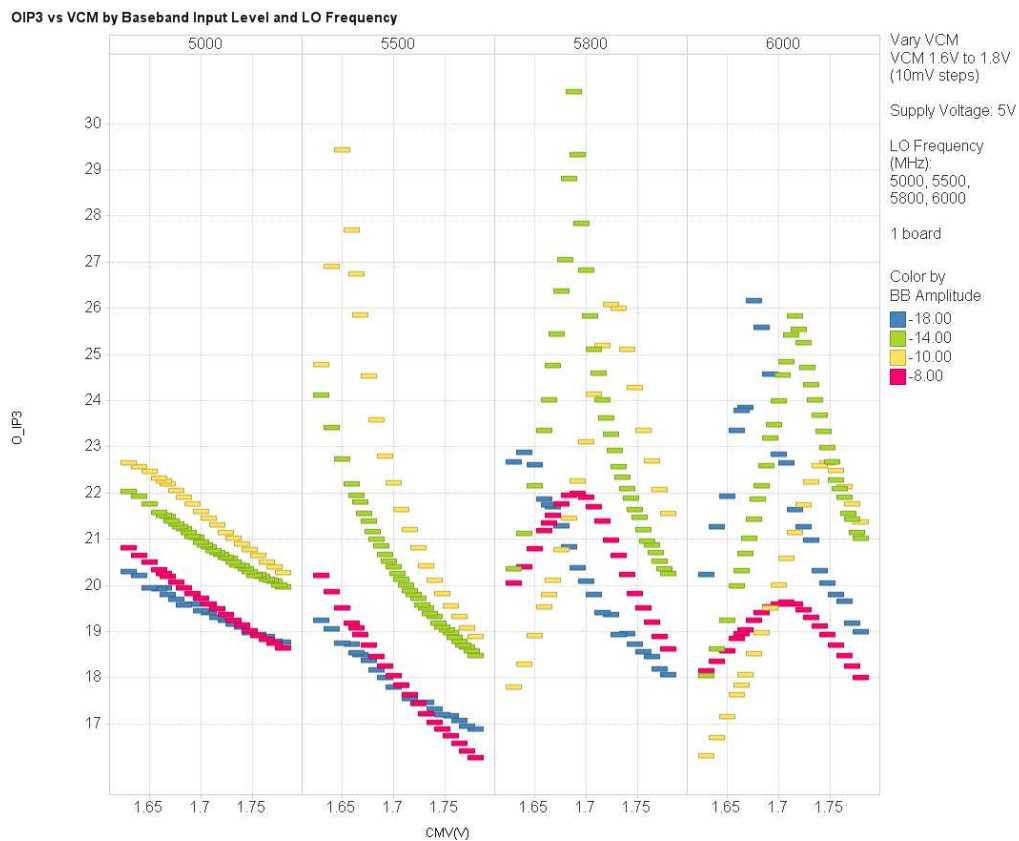

Figure 7. TRF370417 OIP3 vs Vcm at LO Frequencies (MHz) = 5000, 5500, 5800, 6000 at Baseband Input levels (dBm) =  $-8.0$ ,  $-10.0$ ,  $-14.0$ ,  $-18.0$
Figure 7 demonstrates that as the baseband input level varies, the optimal Vcm setting varies too. The important item regarding Figure 7 is that an obvious trend of the optimal Vcm setting vs baseband input level is not easily identified. Therefore, it is recommended to have a fixed baseband input level when using the TRF370417 at LO frequencies beyond 4.5 GHz. In this paper, all plots used a 2-tone baseband input signal, with each tone set to  $-14.0$  dBm by the signal generator. The signal generator assumed a  $50\text{-}\Omega$  termination in its dBm calculation. In a  $50\text{-}\Omega$  system, this calculates to  $265$  mVpp. However, the baseband inputs on the TRF370417EVM are unterminated. Therefore, the actual 2-tone signal amplitude at the TRF370417's baseband input pins is  $505$  mVpp. The table below can help decode Figure 7 dBm baseband amplitude settings from the signal generator.
3. Set the baseband input level to a fixed amplitude, see Figure 7